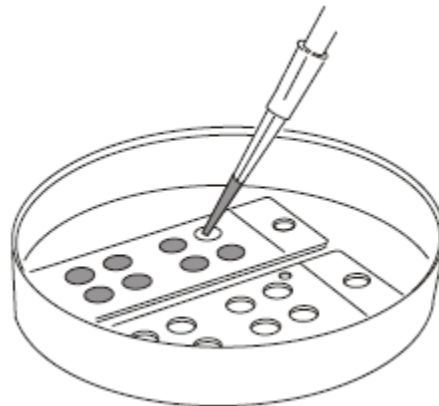

Figure 5
- Pipette cells into individual wells as shown in Figure 5. Allow the cells to attach for 1-24 hours in a humidified CO₂ incubator. Wells are spaced 9mm for use with multi-channel or automated pipettors.